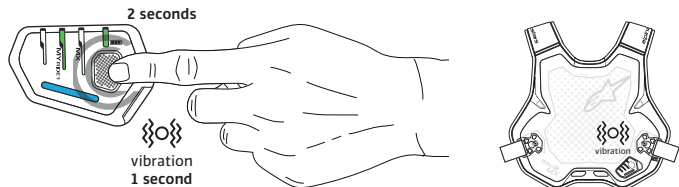

Figure 9: Press the Display Button (3a) for 2 Seconds to Change the Riding Mode.
As previously stated, the System offers up to three different Riding Modes: MX Mode, MY RIDE 1 Mode and MY RIDE 2 Mode (both customizable via Tech-Air® App). After the System has been correctly switched on, the User can easily switch between the three different Riding Modes by pressing the Display Button (3a) for 2 seconds (Figure 9). A SOLID GREEN LED will appear on the Riding Mode LED (3c) indicating the Riding Mode that is currently running on the System. A short vibration of approximately 1 second will also be felt near the Activation Buckle (2) indicating the change of the Riding Mode.